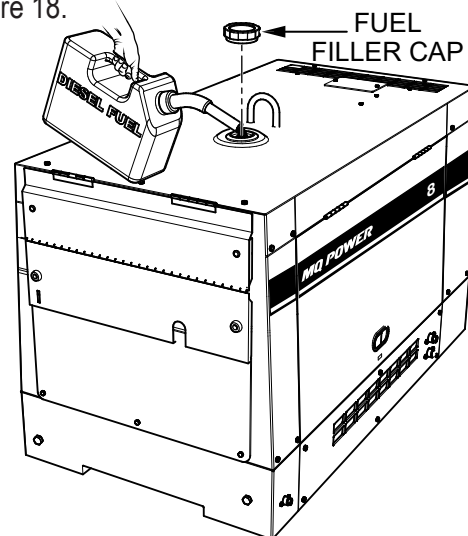

Figure 18. Fueling The Generator
2. Remove the **fuel filler cap** (Figure 18) located on top of the generator and fill the fuel tank as shown in Figure 18.